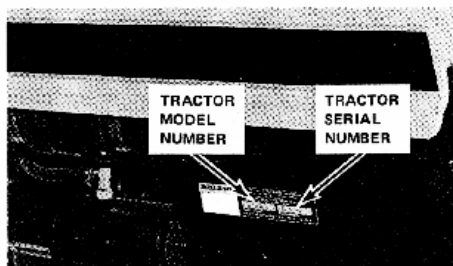

FIGURE 1
1. Model number of tractor. (Fig. 1) 1453
2. Serial number of tractor. (Fig. 1)